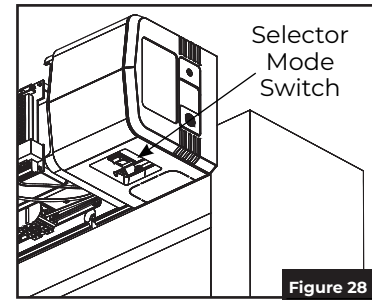

Figure 28
1. Open door on union assembly and place selector mode switch in 'OFF' position. (Figure 28)
7. Place selector mode switch of union assembly in 'ON' position for activation by push plate, RF button, or other activation devices. Place switch in 'H/O' for continuous hold open. (Figure 28) Secure union assembly door with #4 Phillips screw when finished.